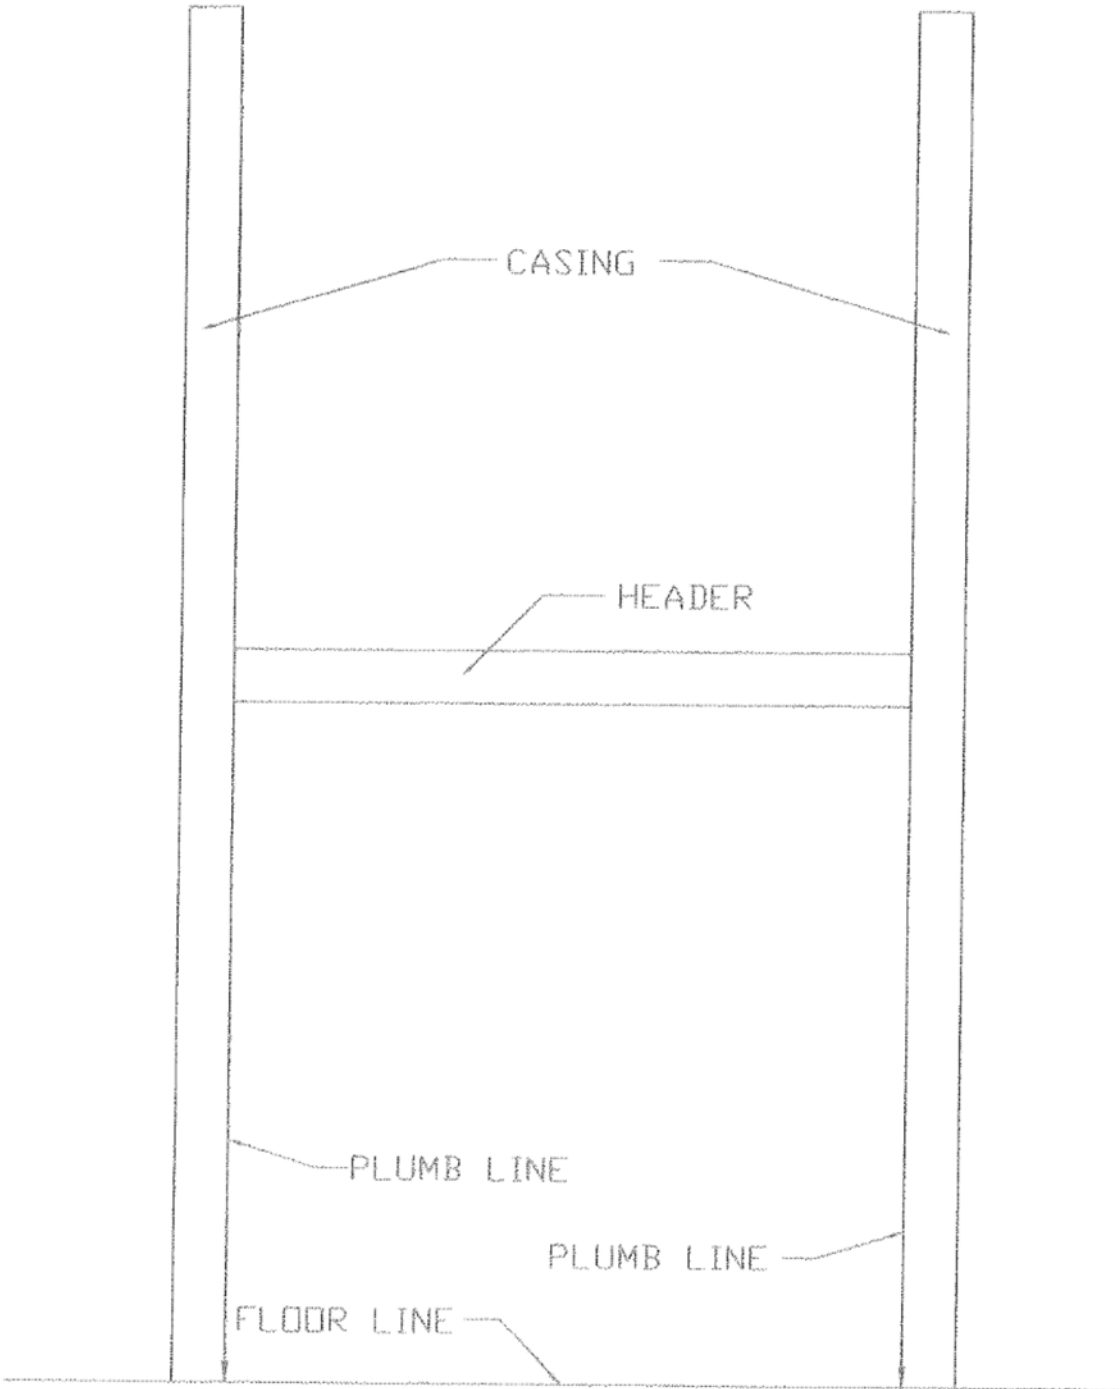

FIG. 1
02. ALL DOORS & DOOR FRAMES MUST BE INSTALLED PLUMB & SQUARE TO ENSURE PROPER OPERATION & WARRANTY VALIDATION. Verify that walls are plumb. Any walls out of plumb will require that the door frames be shimmed back to plumb (see Fig. 1).
06. Lift header assembly above the installed casings (see Fig. 1). Ensure that the distance from the floor to the bottom of the header is approximately equal to the specified height in clear (H IC).
CASING GUIDE (Fig 1.)